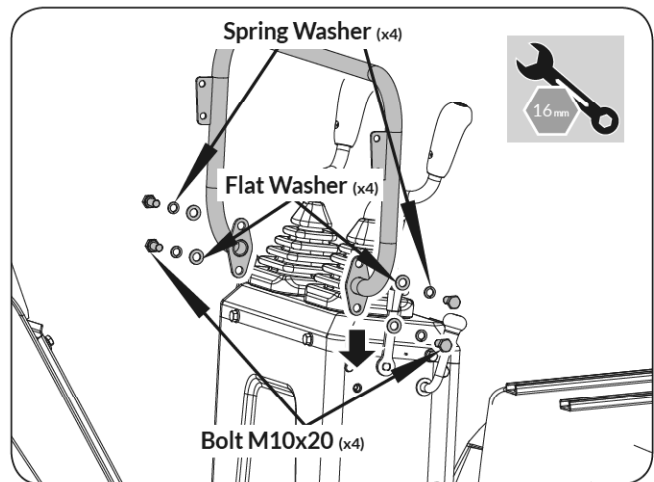

Figure 14
3. Align the holes, then secure the handlebar with the bolts and washers. (See **Figure 14**)